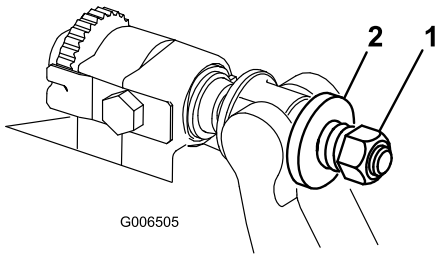

Figure 33
5. Tighten the spring-tension nut until the spring is collapsed, then back off 1/2 turn (Figure 33).